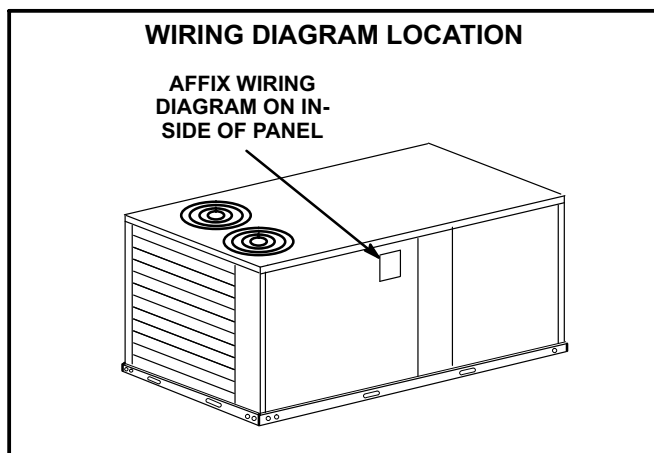

FIGURE 6
- 5- Select wiring diagram with appropriate voltage and affix to unit in location shown in figure 6.